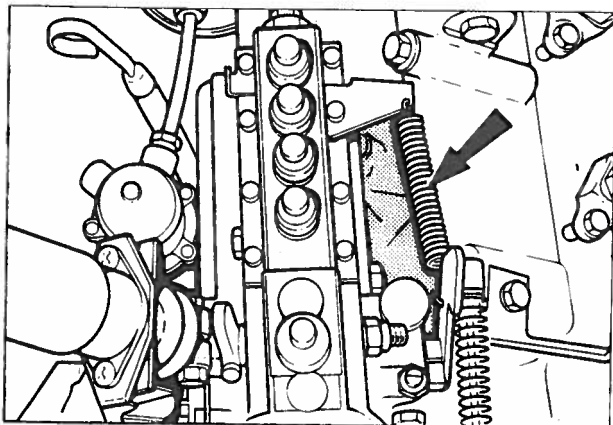

Fig. 48 Throttle lever return spring
40. Remove the injection pump throttle lever return spring – see Fig. 48.
42. Replace the injection pump throttle lever spring – see Fig. 48.